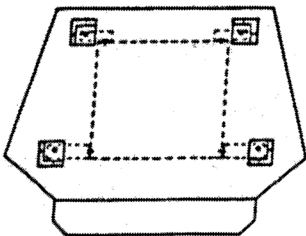

FIGURE 5
3. Attach legs or pedestal using 3/8" bolts provided. (See Figure 5)